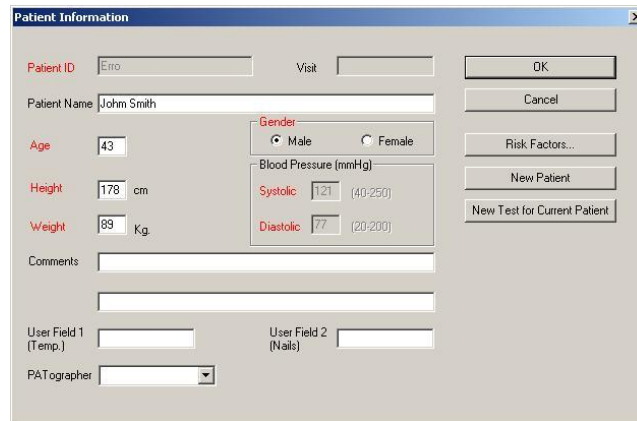

Figure 30 - Patient information dialog box (metric version)
- 1 Click the  icon on the tool bar or activate from the Test Analysis menu the Patient Information dialog box. (see Figure 30)